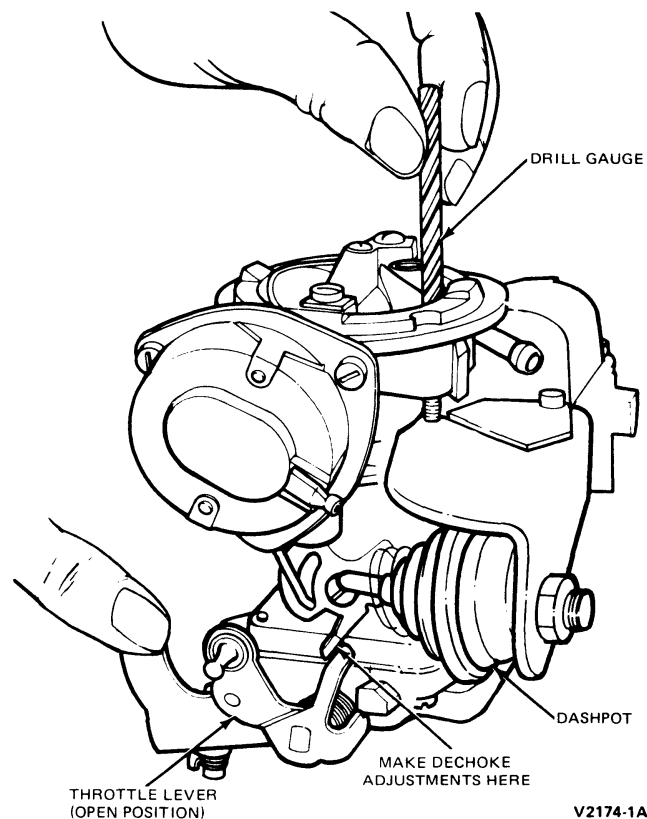

FIG. 4 Choke Plate Clearance Adjustment (Dechoke)
2. Hold the throttle plate fully open and close the choke plate as far as possible without forcing it. Use a drill of the proper diameter to check the clearance between the choke plate and air horn (Fig. 4).